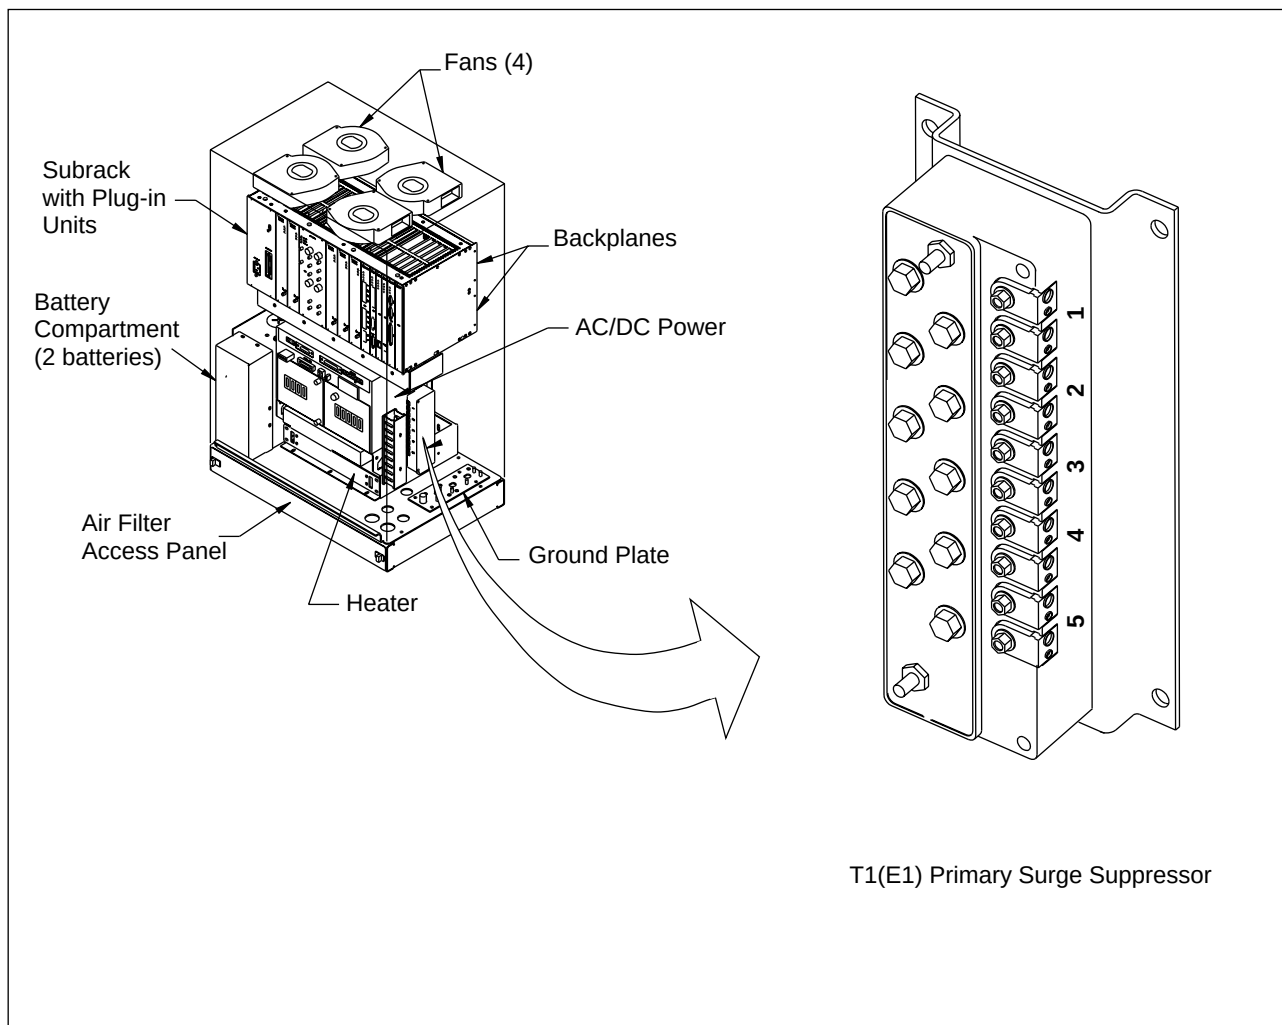

Figure 4-19. T1(E1) Primary Surge Suppressor
7. Route the T1(E1) cable through conduit into the base of the cabinet. Connect cable to the T1(E1) Primary Surge Suppressor located on the right-hand side of the cabinet. See Figure 4-16 on page 4-35 for further information on this procedure. See Figure 4-19 on page 4-38 for a close-up view of the T1(E1) Primary Surge Suppressor and Table 4-5 on page 4-33 for information on the input connections. Note that the connector block is grounded to the I/O plate at the factory.